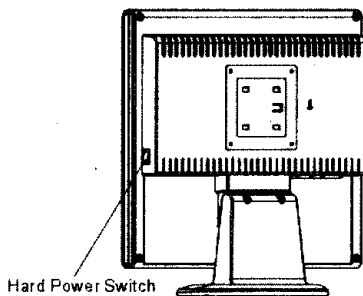

Figure 1-5
1. Turn on the LCD monitor's hard power switch, located on the back of the monitor (See Fig. 1-5)